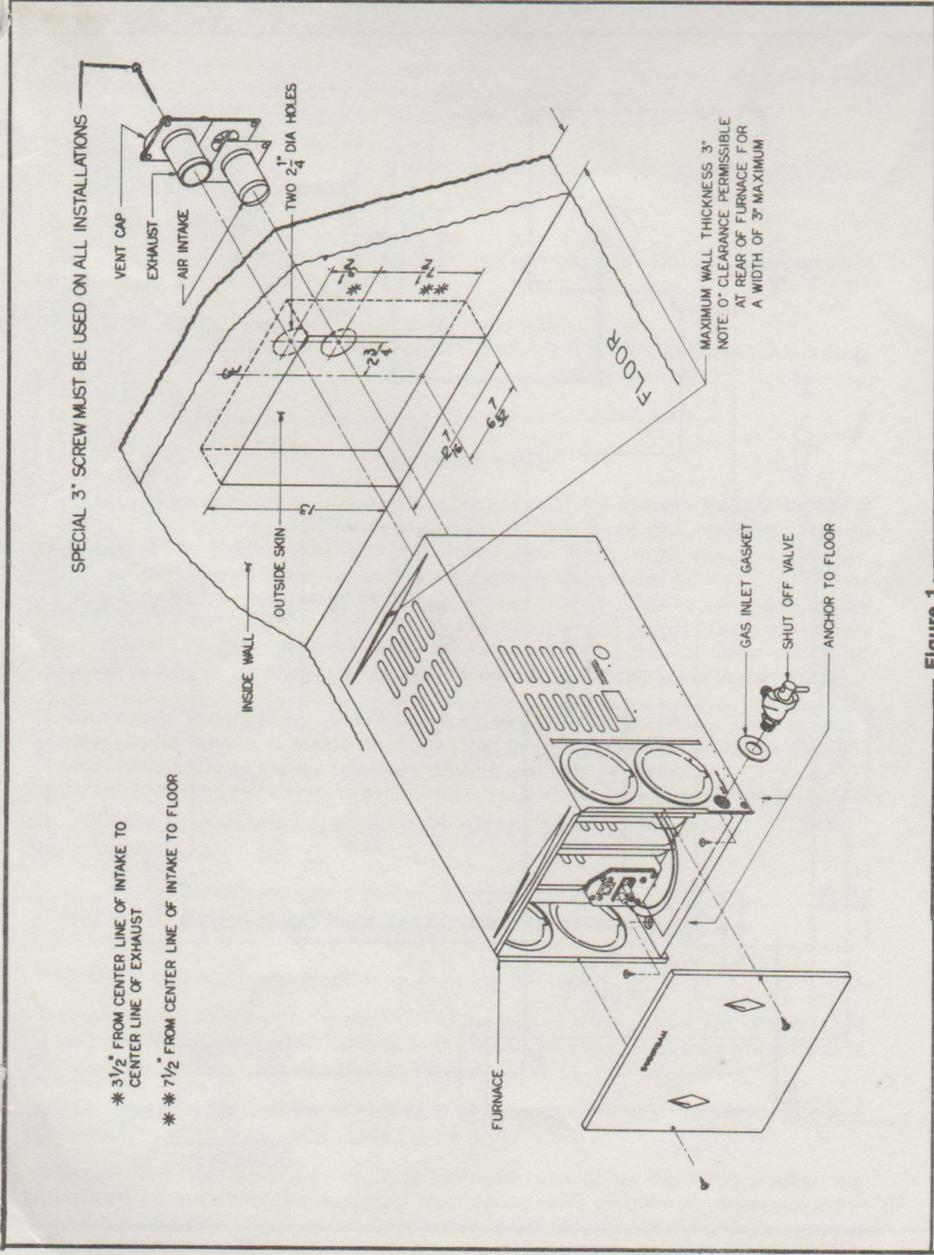
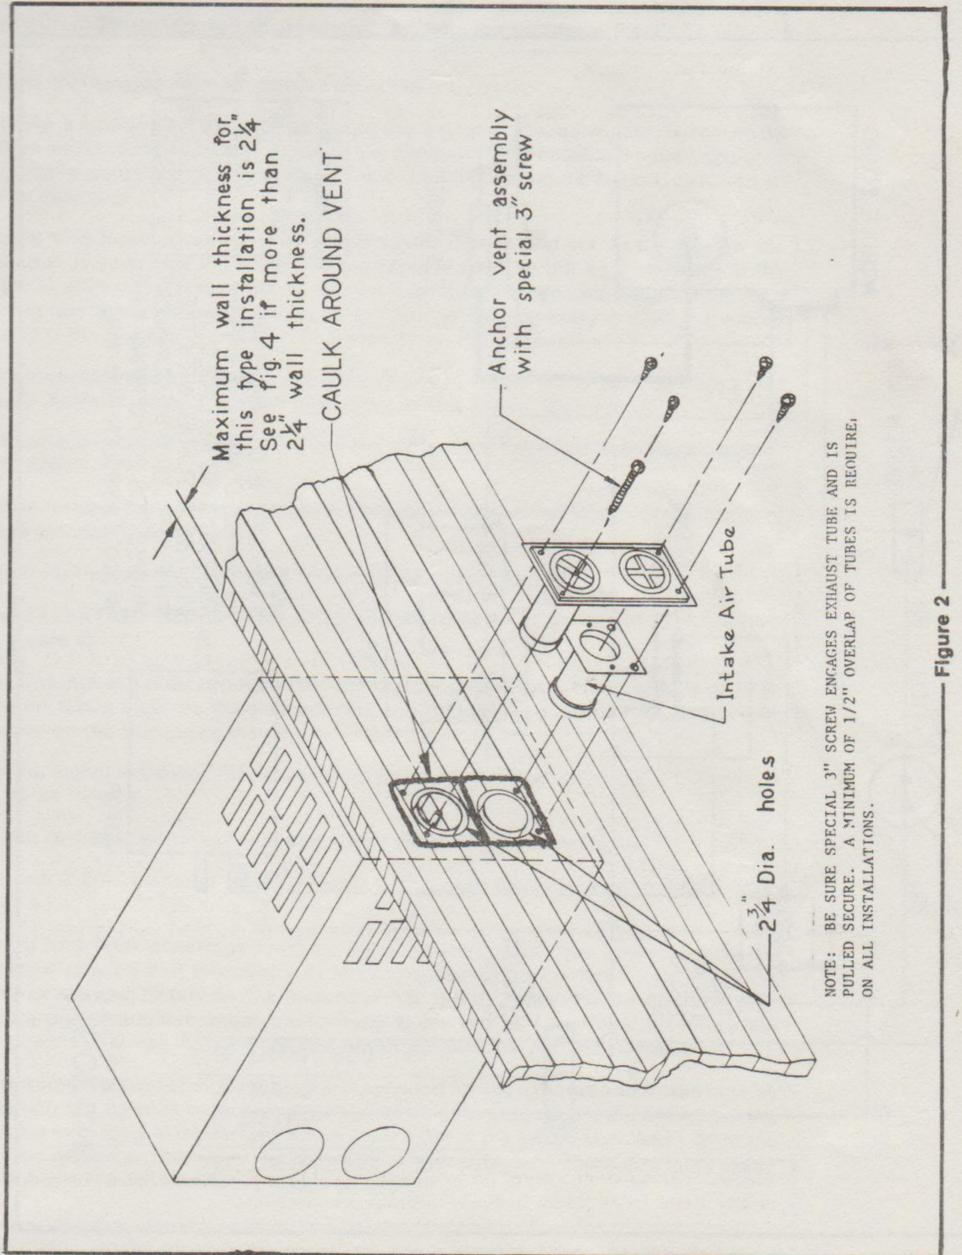

Figure 1
Figure 2
A. INSTALLATION DIRECTLY AGAINST OUTER SKIN OF COACH (See Figure 1)
NOTE: Side and top clearances may be 0" for through the wall installations up to a maximum wall thickness of 3". (See Figure 1.)
- 4-Cut an opening through the inner wall 12 7/16" x 13". This will allow the rear of the furnace to be installed against the outer skin of the coach. (See Figure 1.)
- 5-Cut two 2 1/4" diameter holes through the outer skin of the coach as shown in Figure 1.
- 7-Fasten furnace to floor of coach using the two holes provided in the front plenum area of furnace cabinet. (See Figure 1.)
B. INSTALLATION DIRECTLY AGAINST INNER WALL OF COACH (See Figure 2)
- 4-Locate center lines for exhaust and intake tubes as shown in Figure 1. Cut two 2 3/4" diameter holes through coach wall for exhaust and intake. (See Figure 2.)
- 6-Fasten furnace to floor of coach using the two holes provided in front plenum area of furnace cabinet. (See Figure 1.)
- 1-Locate center lines for exhaust and intake tubes as shown in Figure 1.
7-Fasten furnace to floor of coach using the two holes provided in the front plenum area of the furnace cabinet. (See Figure 1.)
1-Caulk around vent assembly as shown in Figure 2.
5-Attach vent assembly to furnace with special 3" screw provided. Insert screw through hole provided in exhaust opening of vent assembly and secure to bracket in exhaust tube of furnace. This anchors the furnace to the vent assembly and the outer skin of the coach. (See Figure 2.)
1-Be sure that the manual shut-off valve is outside of the furnace jacket and easily accessible. (See Figure 1.) The shut-off valve is to be connected directly to the 90° elbow at the gas inlet to the furnace. To assure an airtight seal, be sure the gasket provided with the furnace is installed between the shut-off valve and the furnace cabinet, as illustrated in Figure 1. If this gasket is omitted, it could result in overheating of component parts within the furnace.